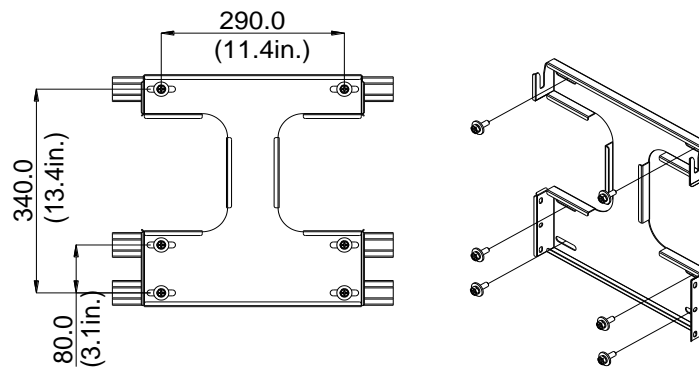

Figure 3-5 Mounting Bracket
A mounting bracket, shown in Figure 3-5, is provided with each SOLECTRIA PVI 25TL-480-R. Direct mounting to any surface without using the provided mounting bracket is not permitted. The mounting bracket must be securely attached to a structurally sound, flat surface. Acceptable surfaces include U-channel metal racking (such as Unistrut), concrete, and other non-flammable surfaces.
The Mounting Bracket has six (6) holes, shown in Figure 3-5 to allow the mounting bracket to be secured to the substrate. Use (6) screw fasteners (not included), torque to the proper specifications. Bracket holes are $\Phi 10\text{mm}$.
The Mounting Bracket is shown in Figure 3-5.